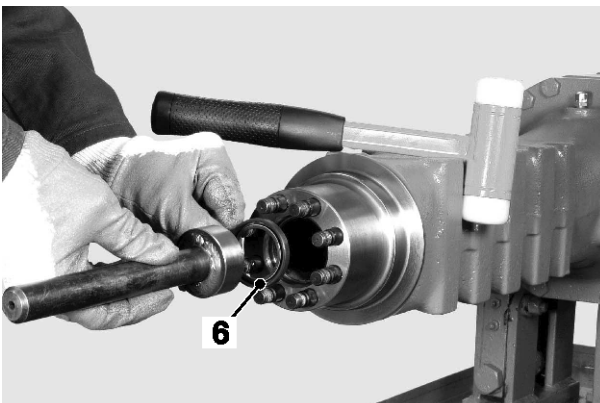

Fig 13.
- 6 Lubricate the new axle shaft-seal **6**, then use a suitable tool to attach it the axle-tube. When installed the seal lips and the spring will be facing you. ⇒ Fig 13. \(□ F-10\).